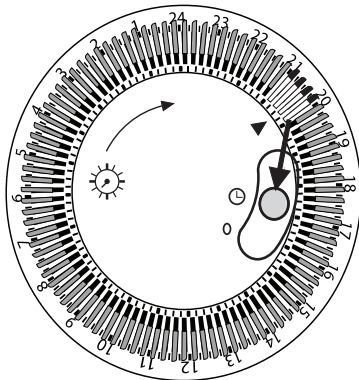

Fig 2
2. Fit the wheels assemblies onto the radiator by placing the U-shaped bolts between the outermost fins on each side of the radiator (see Fig.2 - 3).
3. Move the timer switch to symbol “☉” to enable the timer (Fig 2).